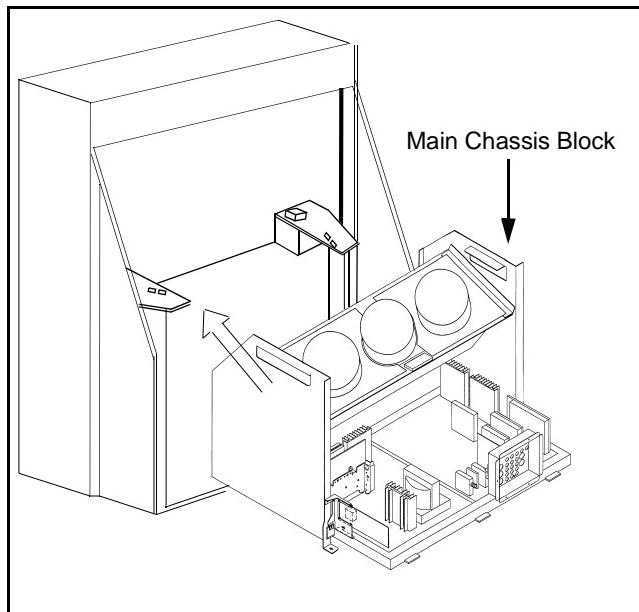

Figure 13. Chassis Removal
(Figure 13)
1. Remove the main chassis block from the cabinet (Figure 13),